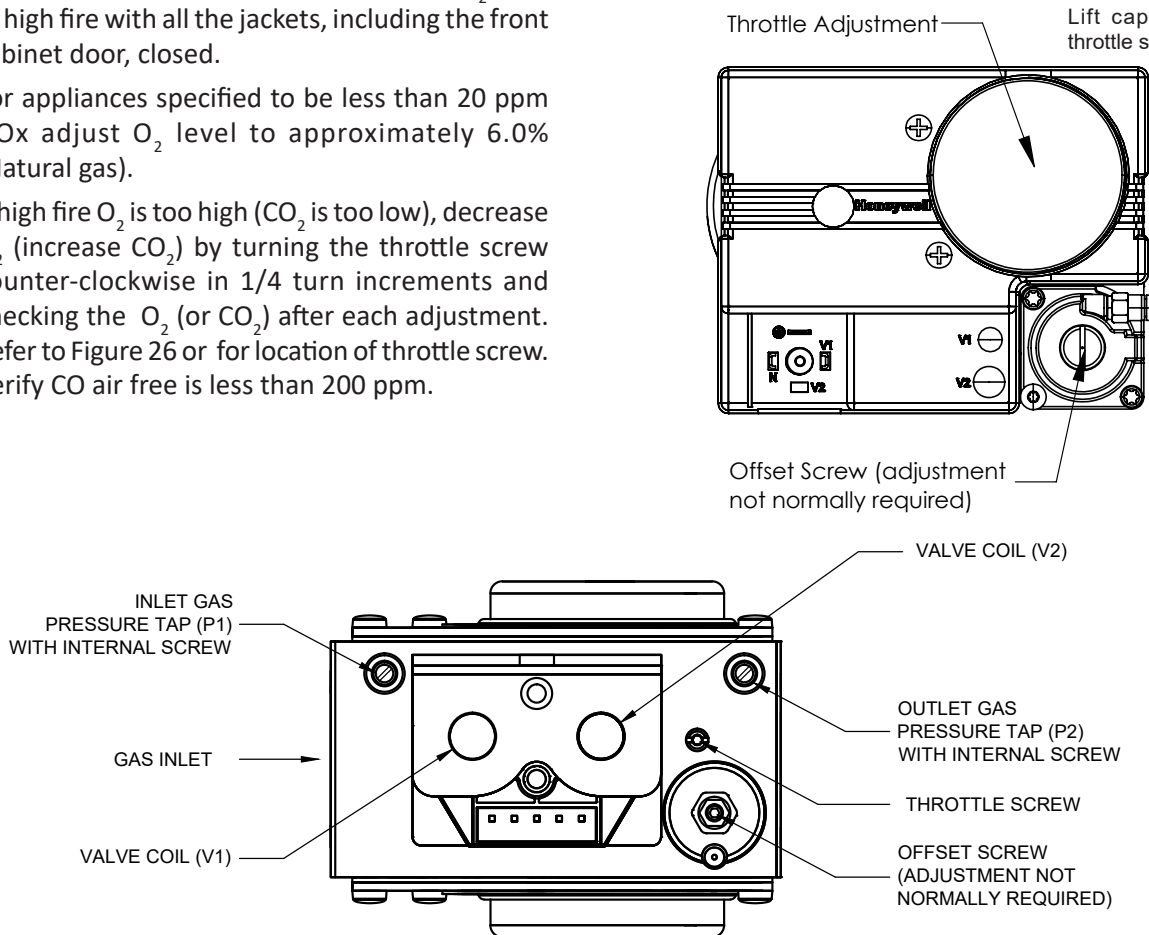

Figure 26: 400-1000L Gas Valve Adjustment
- d. If high fire O_2 is too high (CO_2 is too low), decrease O_2 (increase CO_2) by turning the throttle screw counter-clockwise in 1/4 turn increments and checking the O_2 (or CO_2) after each adjustment. Refer to Figure 26 or for location of throttle screw. Verify CO air free is less than 200 ppm.